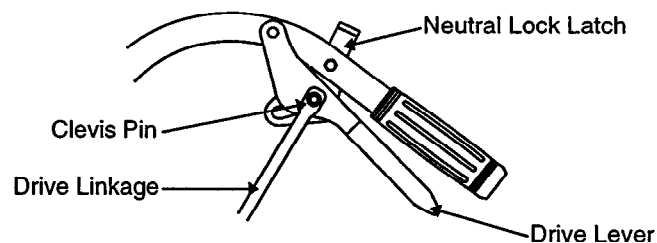

FIG. 9
- b) Insert clevis pin from bolt bag through drive linkage, lever and slot in the neutral lock latches (See Figure 9). Make proper adjustments before adding hairpins.